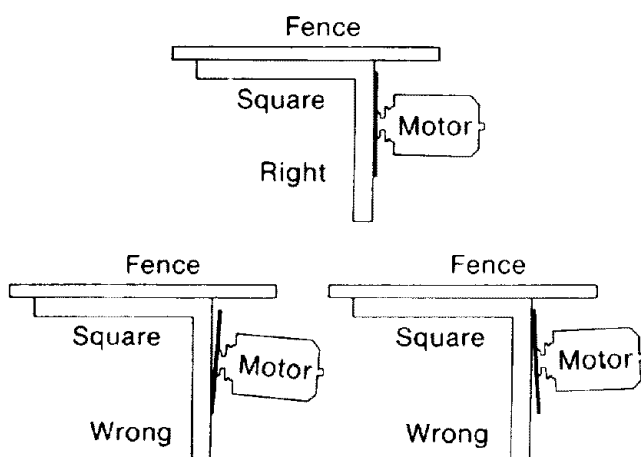

Fig. 85
5. If the square is flush with the *blade* after each rotation, no change is needed. (Figure 85) Go to the next section, or
If there is a gap between the square and the *blade* after any rotation, go to step 6. (Figure 85)